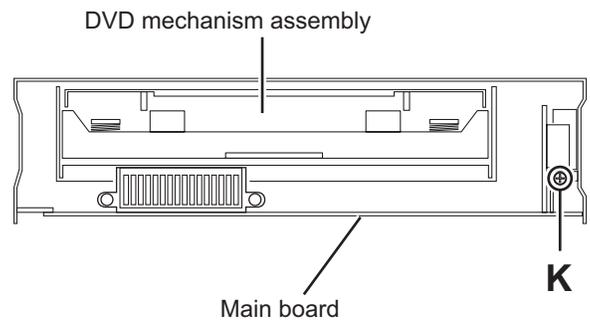

Fig.8
- Remove the one screw **K** attaching the USB board. (See Fig.8)